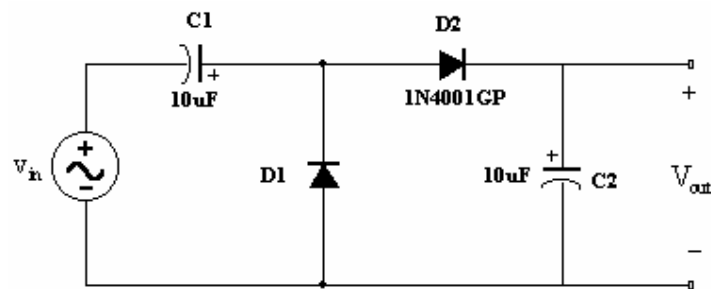

Fig.9: Half-wave Voltage Doubler
19. Construct the circuit shown in Figure 9. Set the function generator to 1 KHz $10 V_{p-p}$ square voltage using the oscilloscope.
4. Refer to Step (16), there is a relationship between the DC offset of a positive clamper and the *positive* peak value of the output waveform. Based on your results, state and explain this relationship.
5. Refer to the circuit shown in Figure 9, how would you decrease the ripple in the output of the voltage doubler?
6. Refer to the V_{DC} value that you measured in Step (20), was this value *exactly* twice the peak input voltage? If not, explain why.
7. Refer to the circuit shown in Figure 9, this is a *positive* voltage doubler. Sketch a *negative* half-wave voltage doubler.